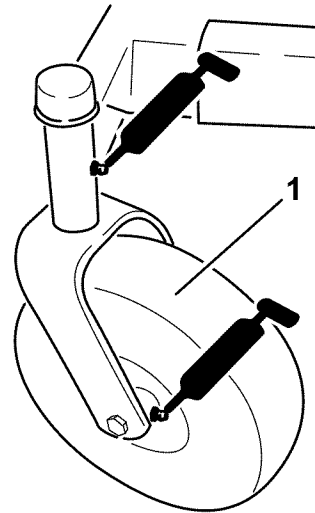
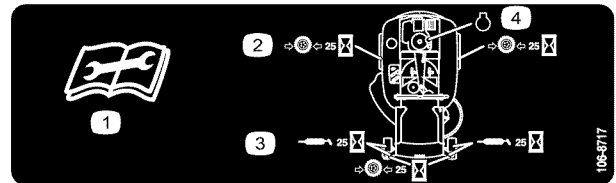

Figure 24
Figure 25
3. Clean the grease fittings (Figure 24 and Figure 25) with a rag. Make sure to scrape any paint off of the front of the fitting(s).